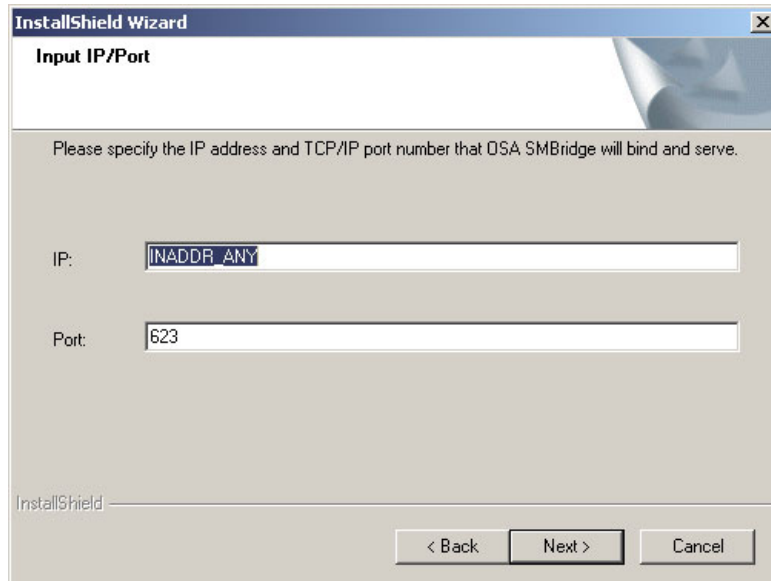

Figure 6-13 IP address and port number window
2. You will now be prompted to enter an IP address and TCP/IP port number, as shown in Figure 6-13 on page 197.